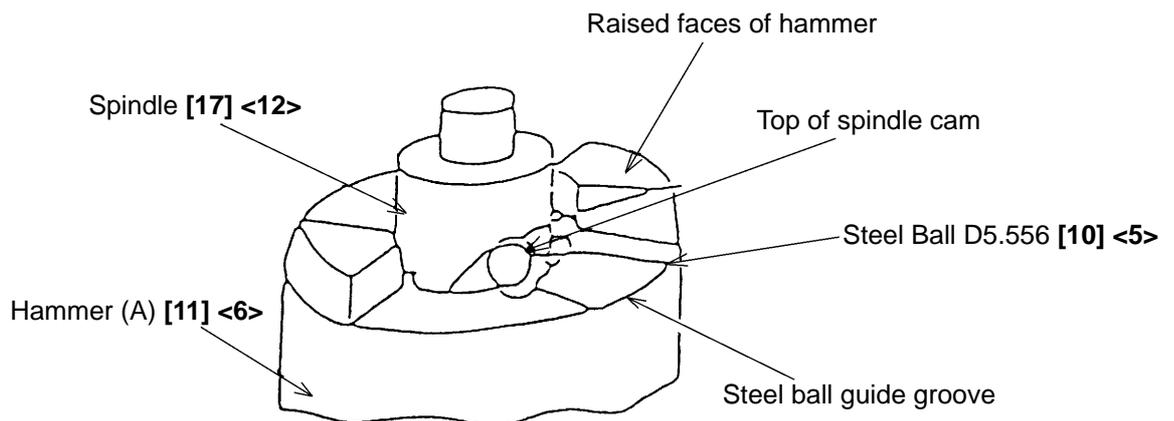

Fig. 7
(b) Align the top of the cam groove on the Spindle [17] <12> with the steel ball guide groove on Hammer (A) [11] <6> as illustrated in Fig. 7. Press down either of the raised faces of Hammer (A) [11] <6> with a hand press to compress the Hammer Spring [14] <9> until the end surface of the hammer contacts the Spindle [17] <12>.
- (d) Mount the hammer assembly onto the J297 base for washer (S). With a hand press, push down the top of the Spindle [17] <12> to compress the Hammer Spring [14] <9>. On this condition, mount the Stopper [16] <11> onto the spindle shaft and then release the hand press.
(4) Mounting the hammer assembly to the housing